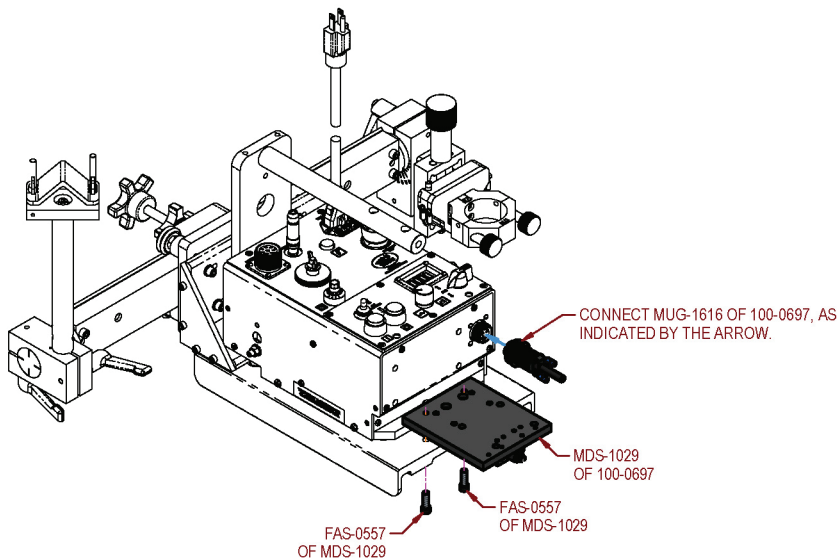

FIGURE 2.
2. Install the rear limit switch. See figure 2.
3. Install the limit switch kit connector (MUG-1616) to the back of the machine as shown in figure 2.